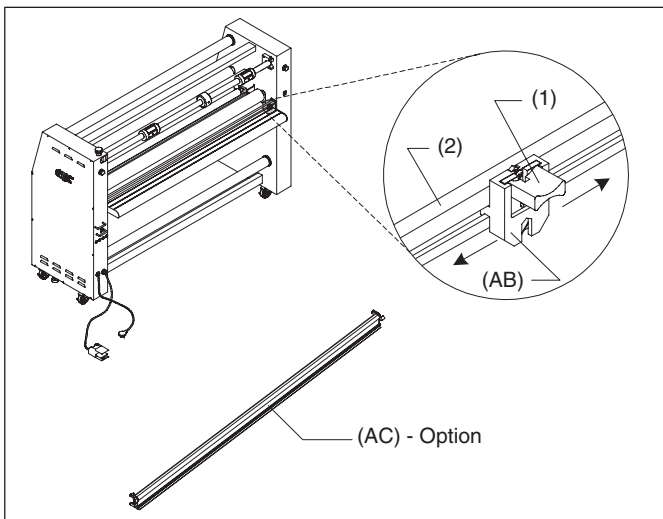

Fig 19
AB. REAR SLITTER: (Figure 19) Used to cut off the laminated web. To use, push down on the blade engage lever (1) and slide across the rear slitler rail (2) to the opposite side.
AC. SEPARATOR BAR: (Option) (Figure 19) Required if running Accushield™ material. To install, remove the rear slitler and position the separator bar in it's place. **(Falcon 60+ (-1) Part # 2020577)**